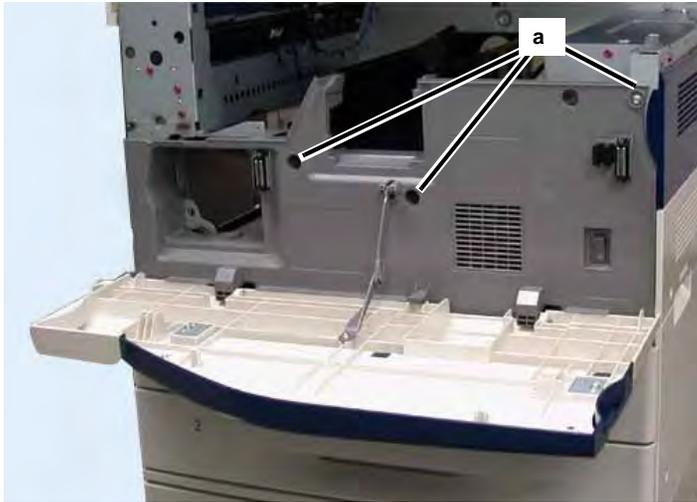

Figure 12 Removing Screws
14. Remove the Front Cover (Figure 12).
- a. Remove the Screws (3).